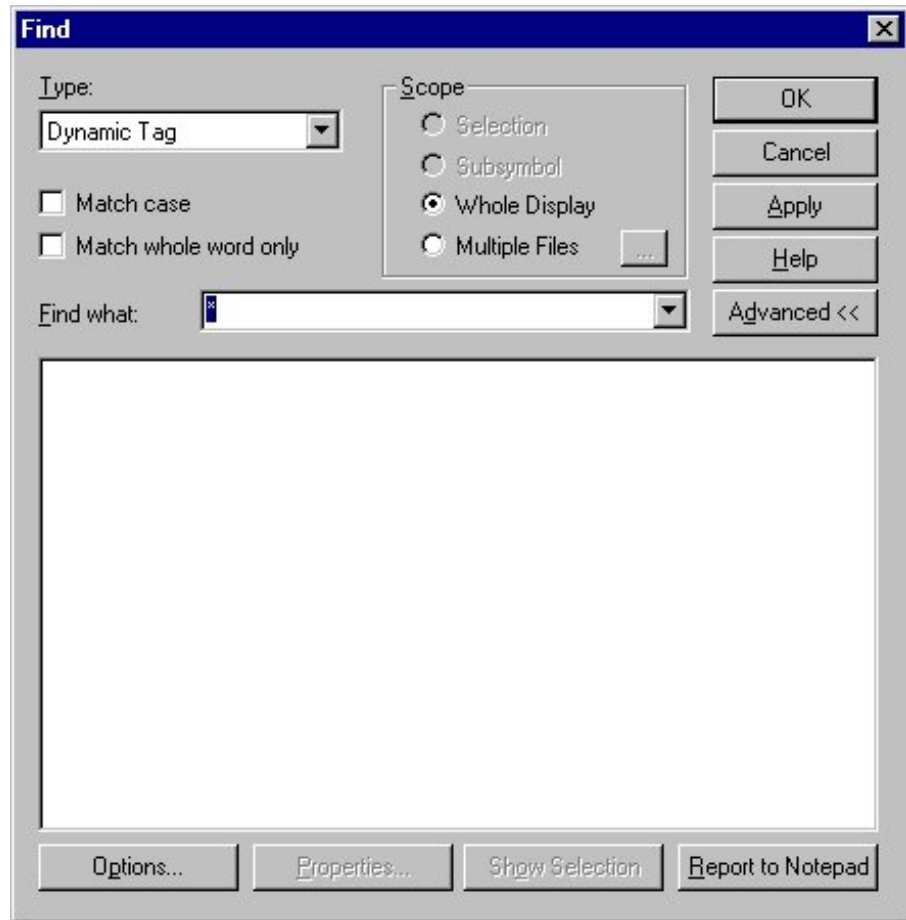

Figure 6-2: Find Dialog Box
1. On the Edit menu, select Find. The Find dialog box appears (Figure 6-2).